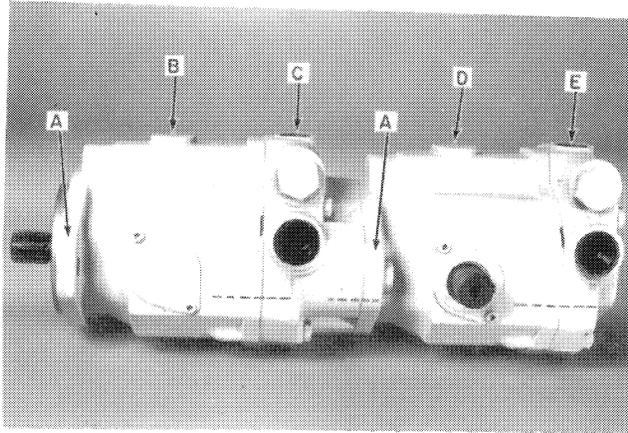

FIGURE 4-1
The complete hydrostatic pump assembly, Figure 4-1, consists of these main components: the left transmission pump, B, the left valve block, C, the right transmission pump, D, and right valve block, E.
**NOTE: Dealer adjustment requests for oil leak repairs, other repairs, or overhaul of transmission pumps must include the model number of the transmission and the date code. These are stamped in the flange of pump housings, A, Figure 4-1.**
1. Clean the complete pump assembly, Figure 4-1, before teardown.
2. To insure proper reassembly, use a screwdriver to scratch lines across the pump housing and valve plates as shown by the dotted lines in Figure 4-1.